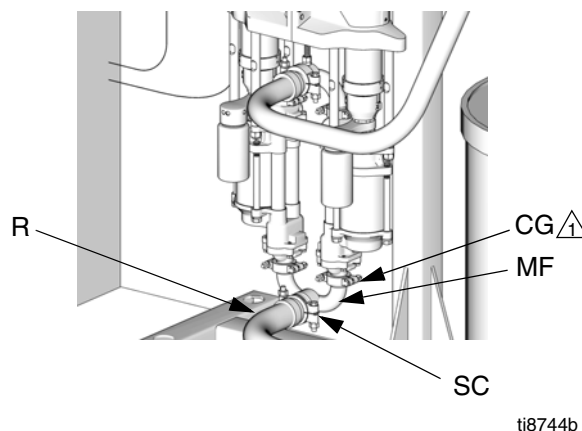

FIG. 7. Fluid Connection (Pump Inlet, E-Flo 4000 Shown)
See FIG. 7. The fluid manifolds are secured to the pumps with 1-1/2 in. clamps and sanitary gaskets (CG). Manifolds can be oriented in either direction. Connect the fluid line (R) to the manifold (MF) using 2 in. clamps and sanitary gaskets (SC). Graco recommends a minimum suction tube size of 1-1/4 in. (31.8 mm). Optional fittings are available. See TABLE 3.